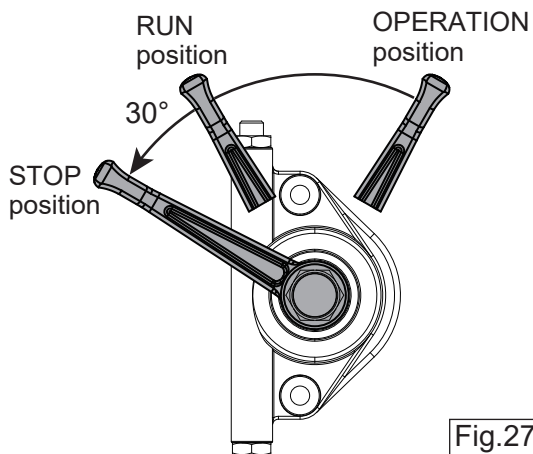

Fig.27
2. As soon as the water dose not come out, quickly move the throttle lever to the STOP position. (Fig.27)